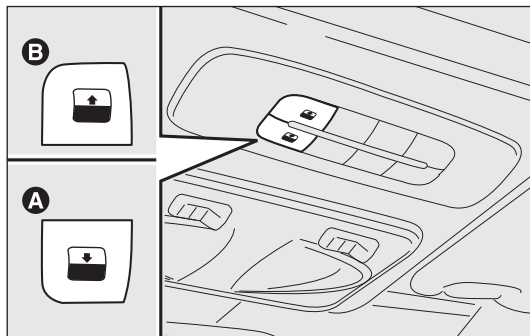

fig. 83
From the wide open position, press button A-fig. 83 for over half a second to set the front pane to the “spoiler” position; press the button again to stop the sunroof at an intermediate position; press button A-fig. 83 once more and hold it down to close the sunroof completely.
- press button A-fig. 83 at close position;